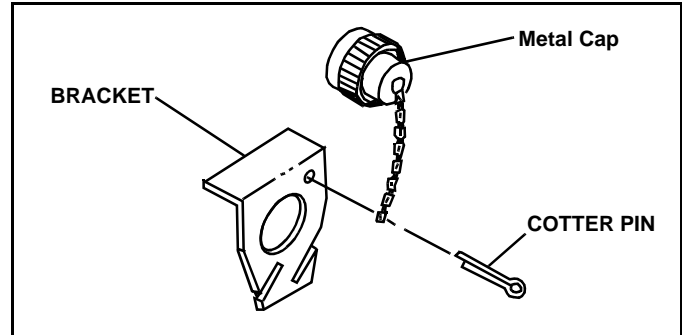

Figure 1-11
18. Attach each protective Metal Cap to the Mounting Bracket by spreading the Cotter Pin, placing one side of the pin through the end of the chain, closing the pin, inserting it through the small hole in the Bracket and spreading both ends of the Cotter Pin. (See Figure 1-11)